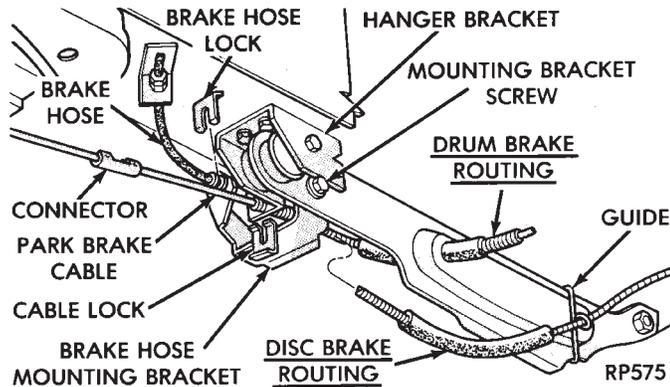

Fig. 1 Remove Brake Hose Mounting Bracket Screw and Park Brake Cable
- (1) Raise vehicle (see Hoisting, Group 0). Remove brake hose mounting bracket screw (Fig. 1).
- (2) Detach park brake cable at connector and from hanger bracket (Fig. 1).